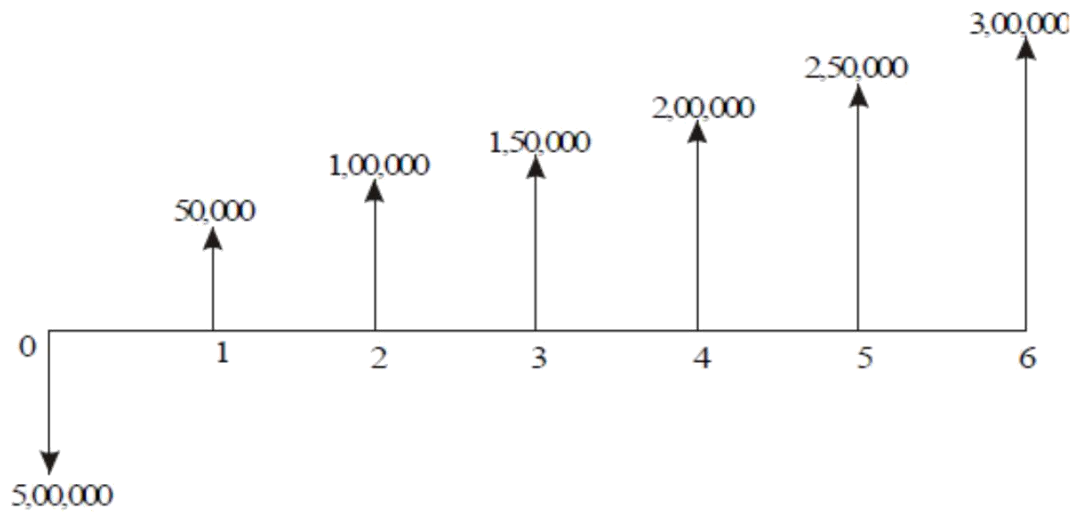

Fig. 5.7 Cash flow diagram for alternative 1.
**EXAMPLE 5.3** The cash flow diagram of two mutually exclusive alternatives are given in Figs. 5.7 and 5.8.